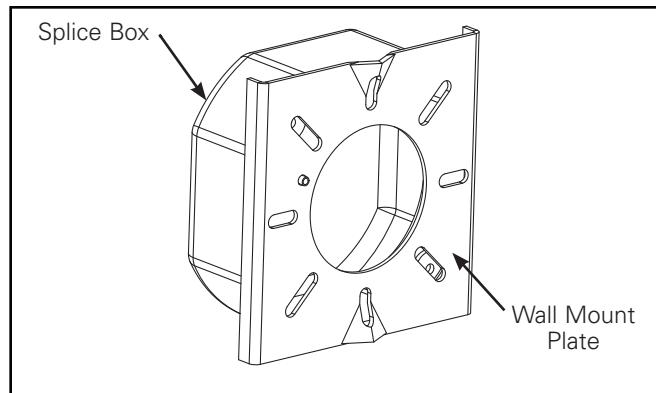

Figure 1
1. Install wall mounting plate to splice box using splice box hardware (provided by others) and tighten to 17 IN/LBS torque when using 8-32 screw (Figure 1).